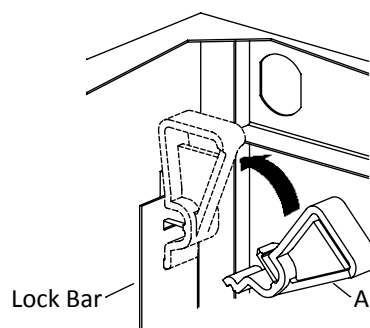

Figure 2
3. Insert the lower tab of the Lock Bar Attachment (A) into the bottom slot of the lock bar. Snap the upper tab of the Lock Bar Attachment (A) into the top slot in the lock bar. (Fig. 2)